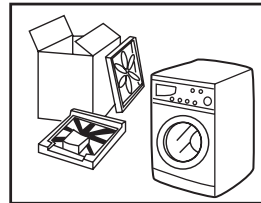

Fig.1
- Remove all the packing materials (including the foam base) to prevent vibration during use, as shown in Fig. 1. Upon opening of the package, water drops may be seen on the plastic bag and the porthole. This is normal phenomenon resulting from water test in the factory